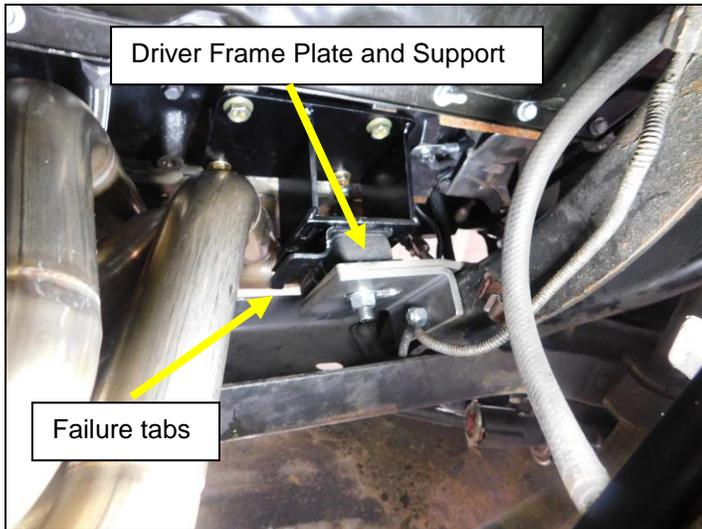
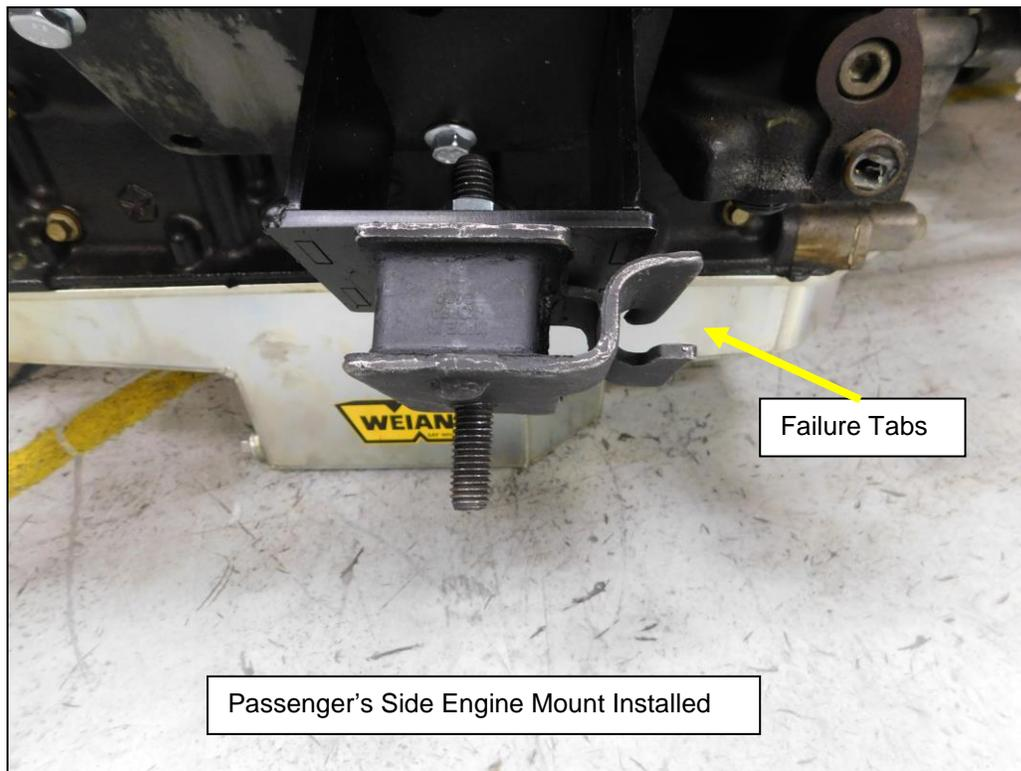

Figure 2
Figure 4
4. Install the driver's and passenger's frame plates on to the upper engine mount slot closest to the rear edge of the crossmember. Install (x2) 1/2 x 1-1/4" bolts through the frame plate and upper slot. Install the flanged nuts hand tight (**Figures 2 & 3**).
NOTE: Make sure the alignment bump on the engine mount is fully inside the slot on the bracket and the failure tabs are facing the front of the engine for the **passenger's** side (**Figure 4**). Install and tighten the 1/2" flange nut. The failure tabs will face the rear of the engine on the **driver's** side (**Figure 2**).